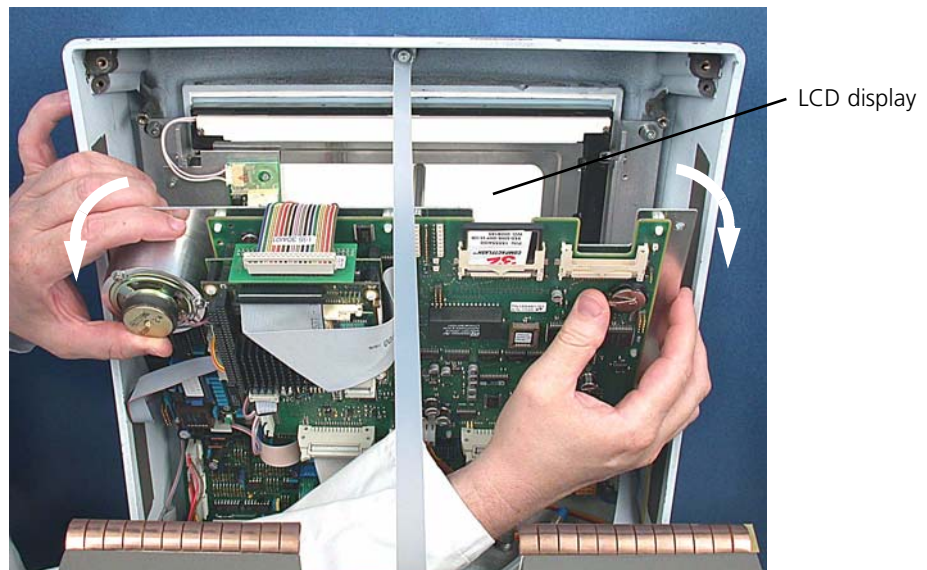

Figure 11-134. "Hinging" the control board back
3. "Hinge" back the mounting plate, complete with control board. (Figure 11-134.) This exposes the LCD display.